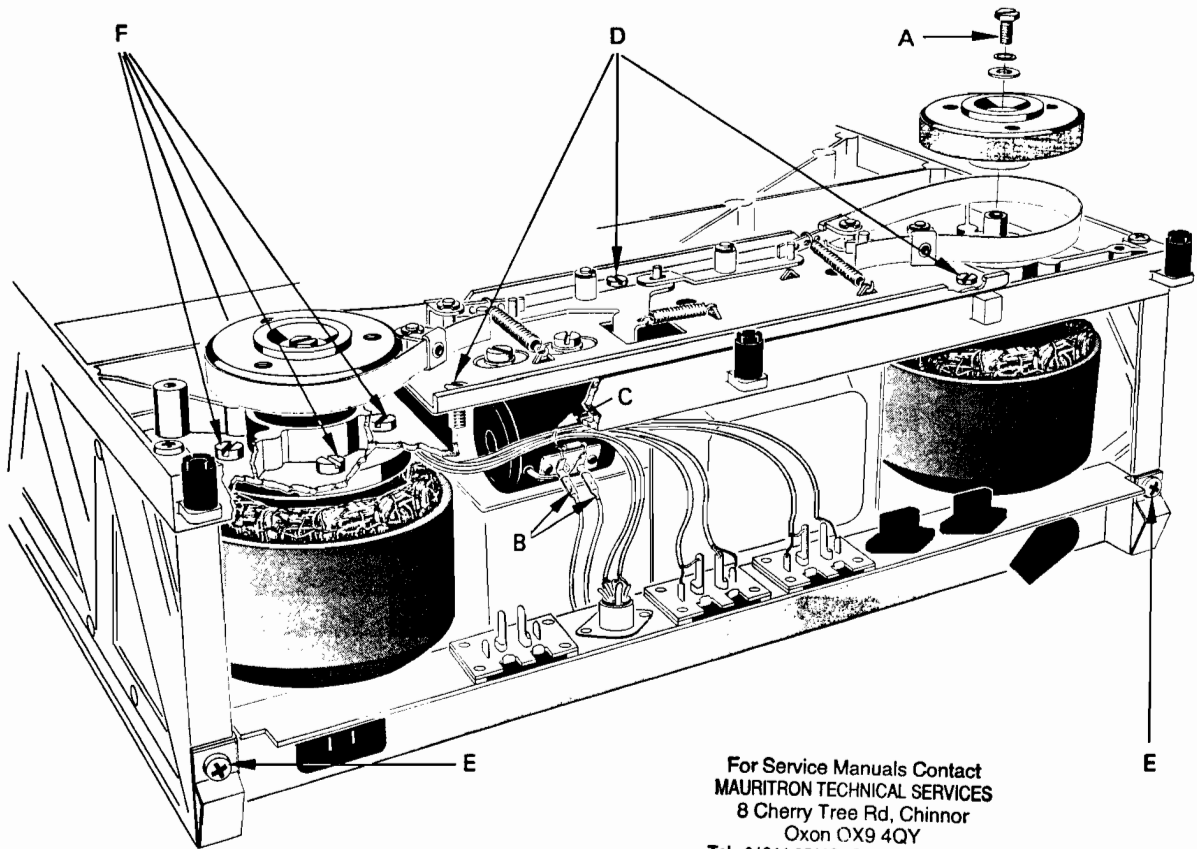

Fig. 3.5-6
- Remove frame screws E ( fig. 3.5-6 ).